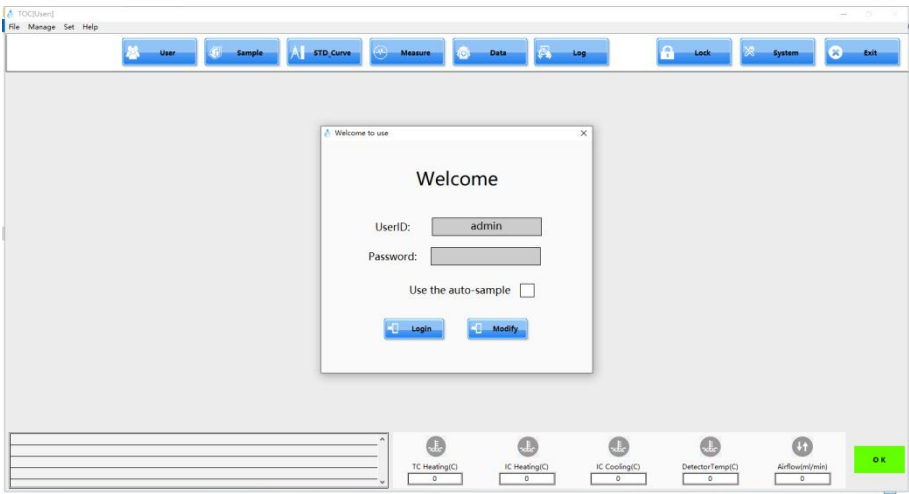

Fig.6.2
1) Open the login interface (Fig.6.2), enter user number: admin, password: